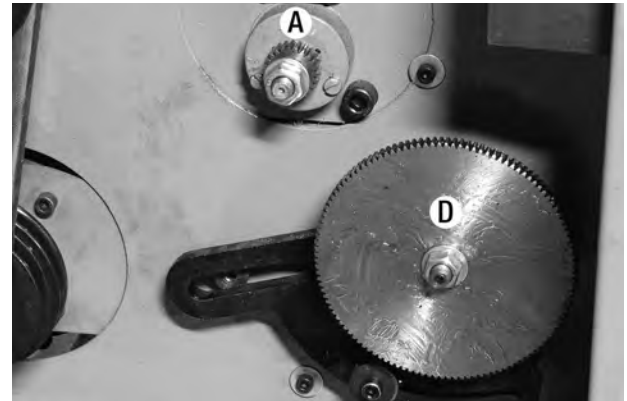

FIGURE 30
5. Replace the gears in positions A and D with 24 and 120 tooth gears as shown in Fig.30.